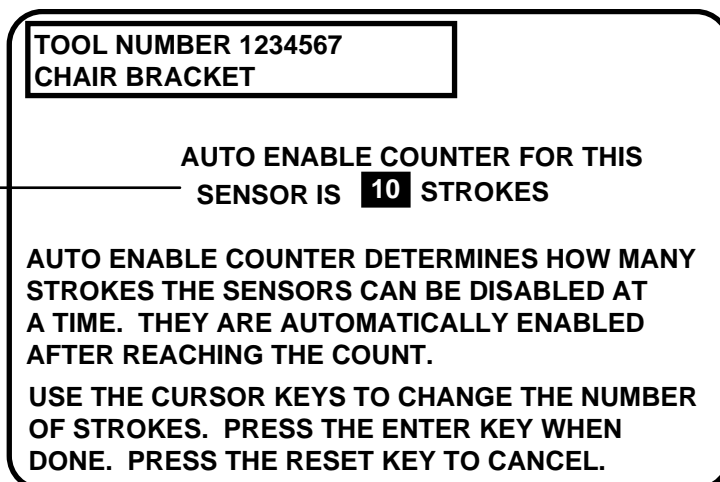

Figure 5-12. Setting "Auto enable by sensor" counter
2. *If you had selected "Auto enable by tool" in Initialization mode (Chapter 4), a screen appears asking you to enter the stroke value. If you had selected "Auto Enable by Sensor and tool" in Initialization, this screen will not appear (refer to Figure 5-12, f567arther down in this section).*